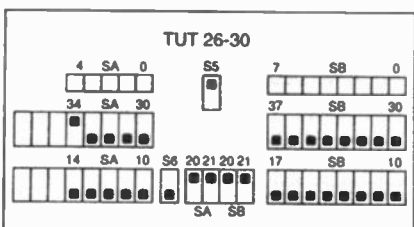

Fig.21. Switch settings for programs TUT26 to TUT30.
### PROGRAM - TUT26 SWITCH SETTINGS - as in Fig.21.
**SWITCH SETTINGS – as in Fig.21.**
##### SWITCH SETTINGS - as in Fig.21.